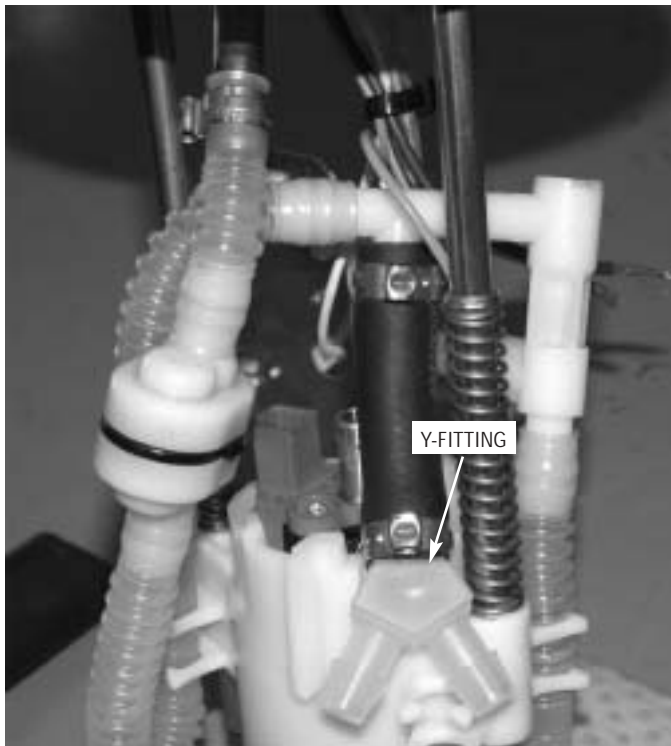

Fig. 13-e
- I.** Locate the supplied fuel pump and pump inlet screen. Attach the pump inlet screen to the pump and orient exactly as shown. (See Fig. 13-f.)